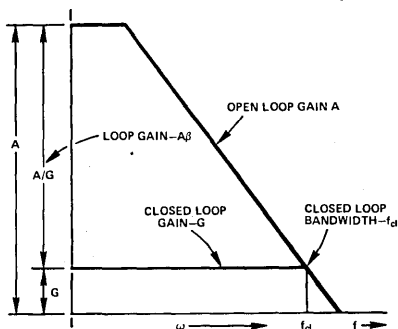

Figure 4. Closed Loop Bandwidth and Loop Gain
2. *What closed loop gain and bandwidth are required?* Closed loop gain,  $G$ , is dictated by the application. To a first approximation the intersection of the open and closed loop gain curves in Figure 4 gives the closed loop bandwidth,  $f_{c1}$  (-3dB). For high gain, wideband requirements, it may be necessary, or more economical, to use two amplifiers in cascade, each at lower gain.
3. What loop gain is required or alternatively what gain stability, output impedance and/or linearity are necessary? The available loop gain at a particular frequency or over a range of frequencies is very often more important than closed loop bandwidth in selecting an amplifier. Loop gain as illustrated in Figure 4, is defined as the difference, in dB, or as the ratio, arithmetically, of the open to closed loop gain ( $A\beta = A/G$ ). You will find in most of the equations defining the closed loop characteristic of a feedback amplifier that the loop gain ( $A\beta$ ) is the determining factor in performance. Some of the more notable examples of this point are as follows: